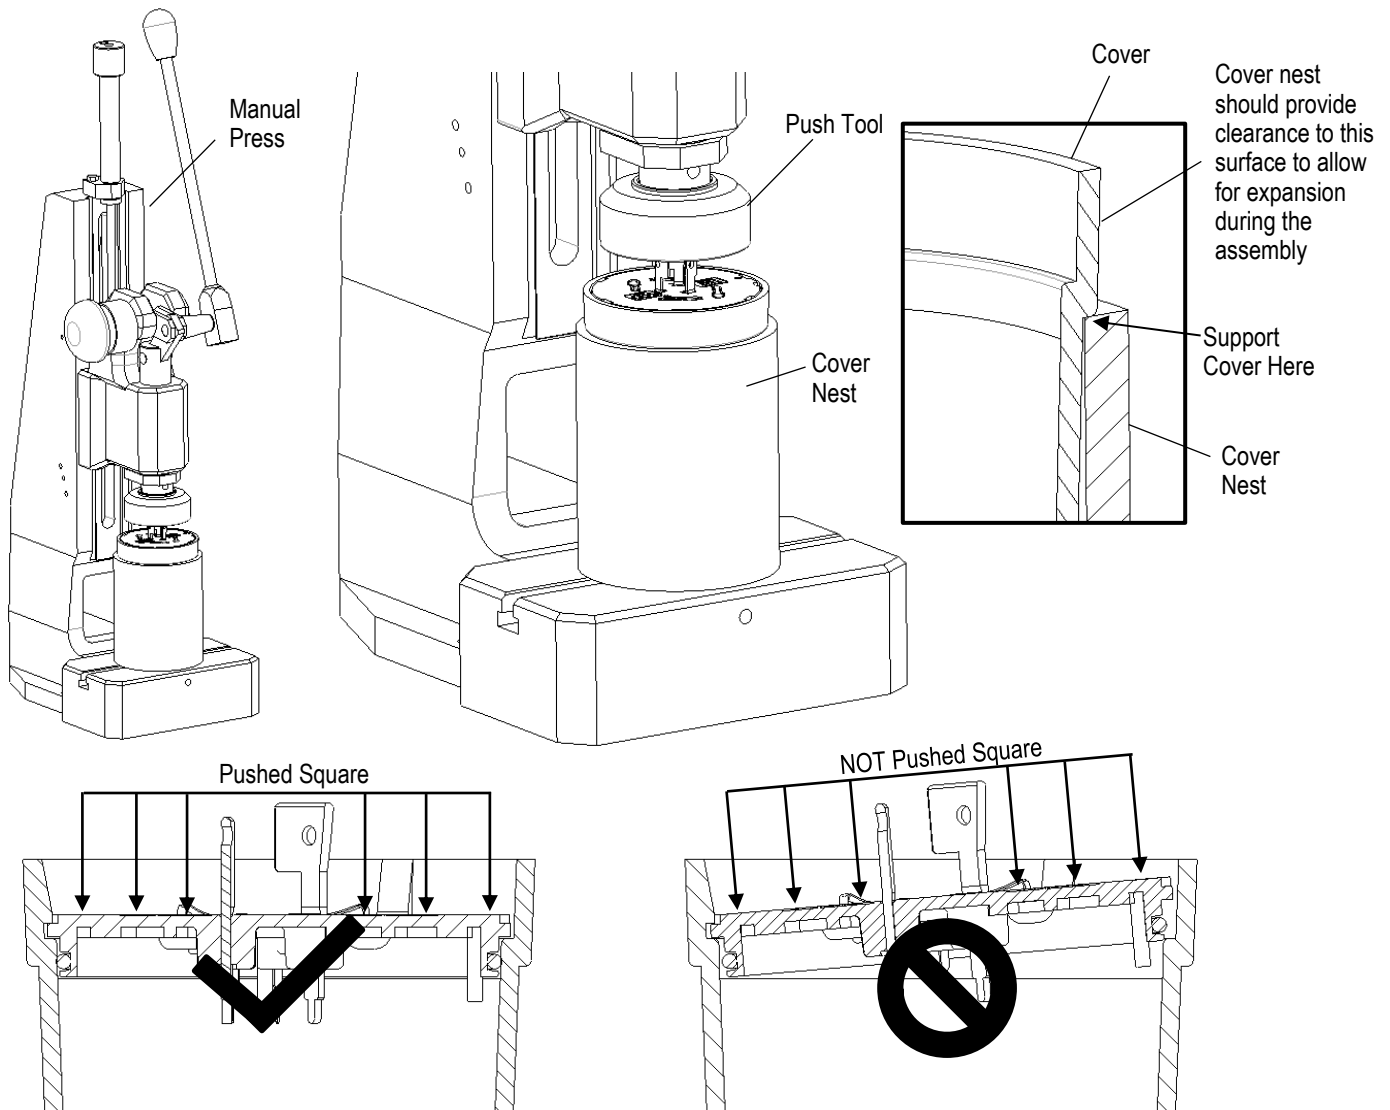

Figure 3b
**B. Press the cover onto the base ensuring that the cover is aligned squarely to the base and the base is solidly supported. Reference figures 3b and 3c.**